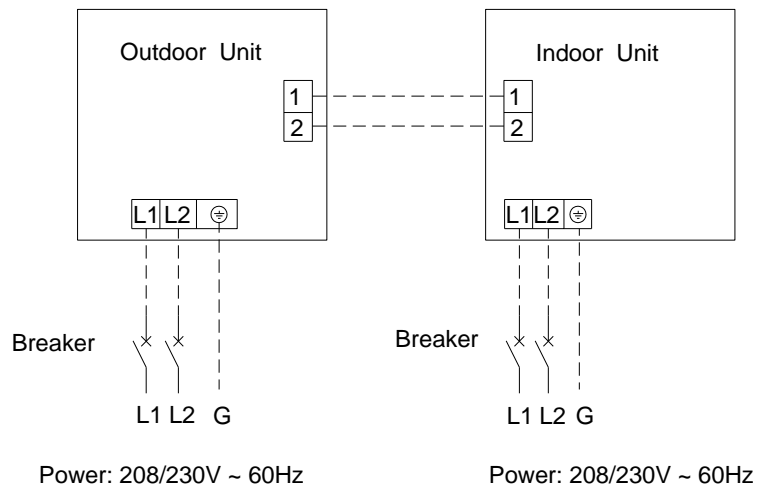

Figure 3-4-4
| ⑦. Connect the indoor unit connection cord properly based on the corresponding marks as shown in Figure 3-4-4. |